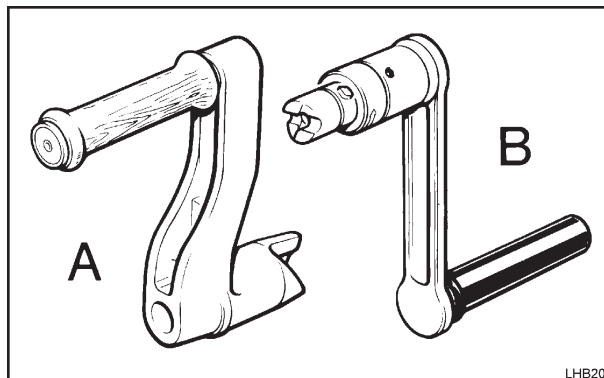

Figure 4.1.1 The Starting Handle
Insert the correct handle, refer to 'A' in 'Figure 4.1.1', into the starting housing.
Swivel the starting handle housing cover (A) to one side and insert the correct handle, refer to 'B' in 'Figure 4.1.1', into the housing.